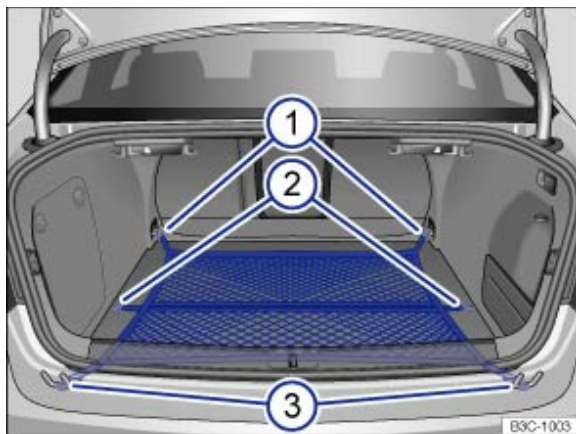
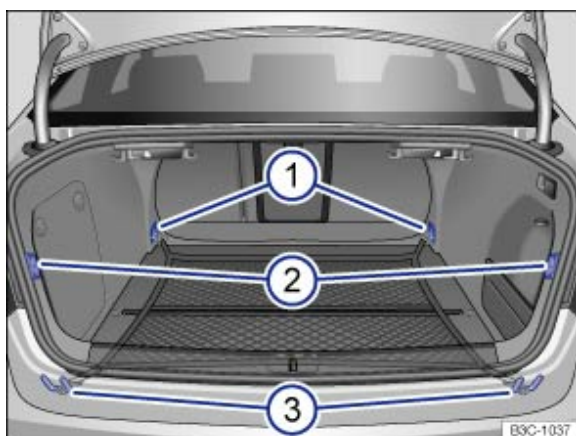

Fig. 108 In the luggage compartment: luggage net fitted flat
Fig. 109 In the luggage compartment: fastening rings ① and ③ and hooks ② for hooking the luggage net
- Hook the hooks → Fig. 108 ② on the luggage net into the fastening rings on the rear seat backrest → Fig. 109 ② → ⚠. The luggage net zip must face upwards.
- Hook the hooks → Fig. 108 ② into the fastening rings on the loading edge of the boot → Fig. 109 ②.
- Attach the short hooks → Fig. 108 ② of the luggage net to the holders → Fig. 109 ② → ⚠. The luggage net zip must face upwards.
- Attach the hooks → Fig. 108 ② and → Fig. 108 ② to the fastening rings → Fig. 109 ②.